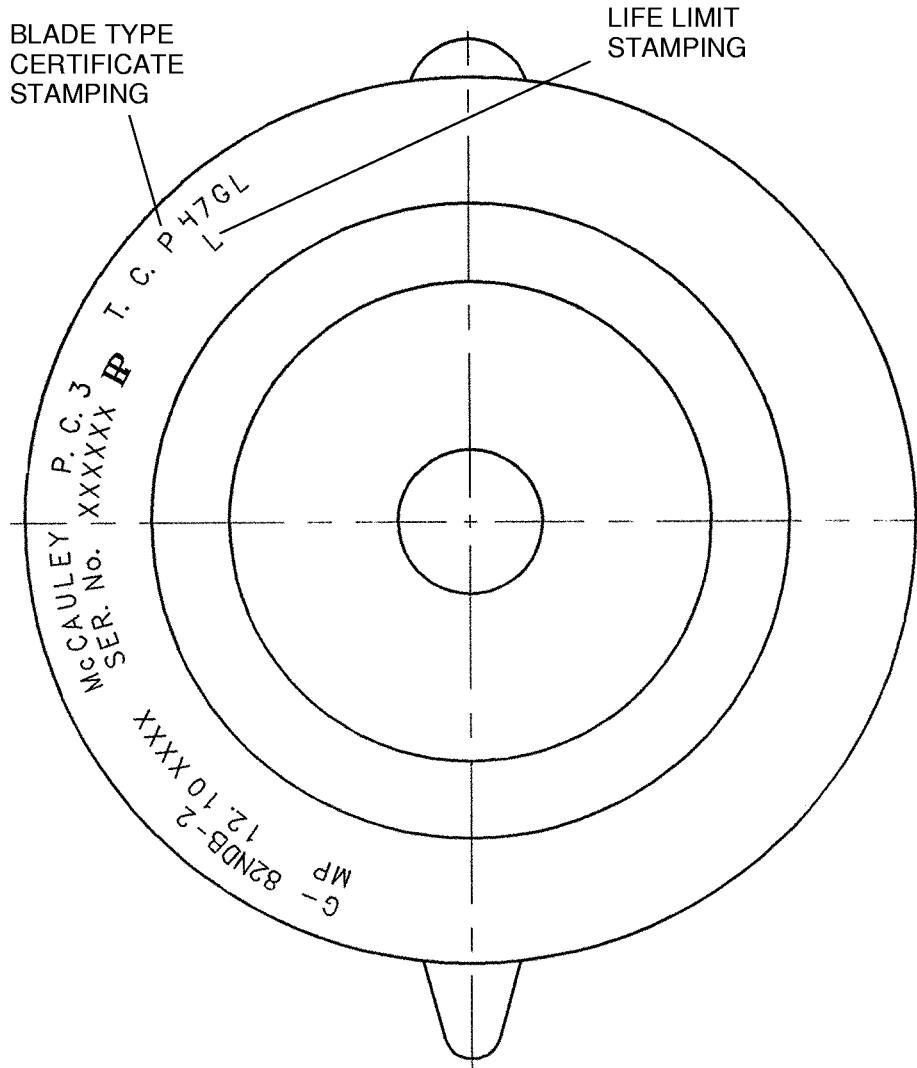

Figure 2. Blade Life Limit Stamping (Sheet 1)
(1) (Refer to Figure 2.) The life limit stamping "L" must be stamped under the blade type certificate stamping on each blade.